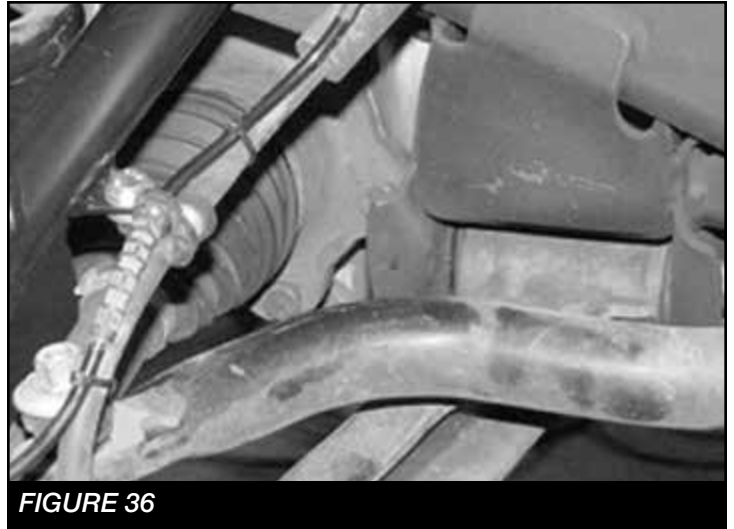

FIGURE 36
44. Reconnect the wheel speed sensor and zip tie to the brake line. **SEE FIGURE 36**